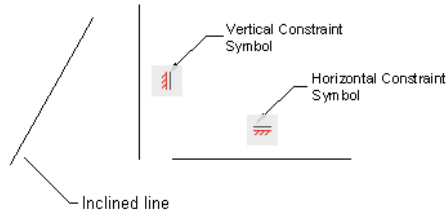

Figure 1-1 The Vertical and Horizontal Constraint symbols
On applying a constraint to an entity, the corresponding symbol is displayed near the entity, as shown in Figure 1-1. If you move the cursor over the symbol, the symbol will be highlighted and a cross mark (X) will be displayed. Click on the cross mark to hide the symbol. However, if you place the cursor on the entity on which a constraint has already been applied, a glyph will be displayed indicating that a constraint is applied.